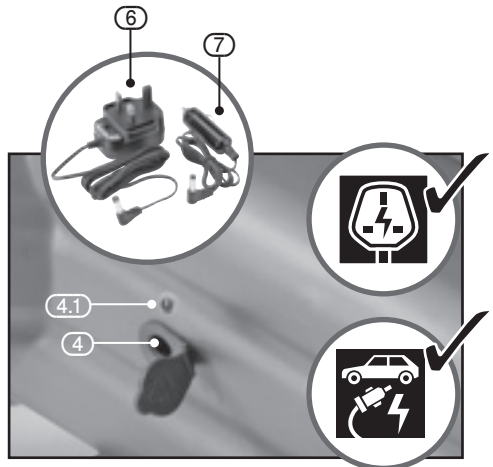

FIG.2
8.2 CHARGING AC OR DC – FIG. 2